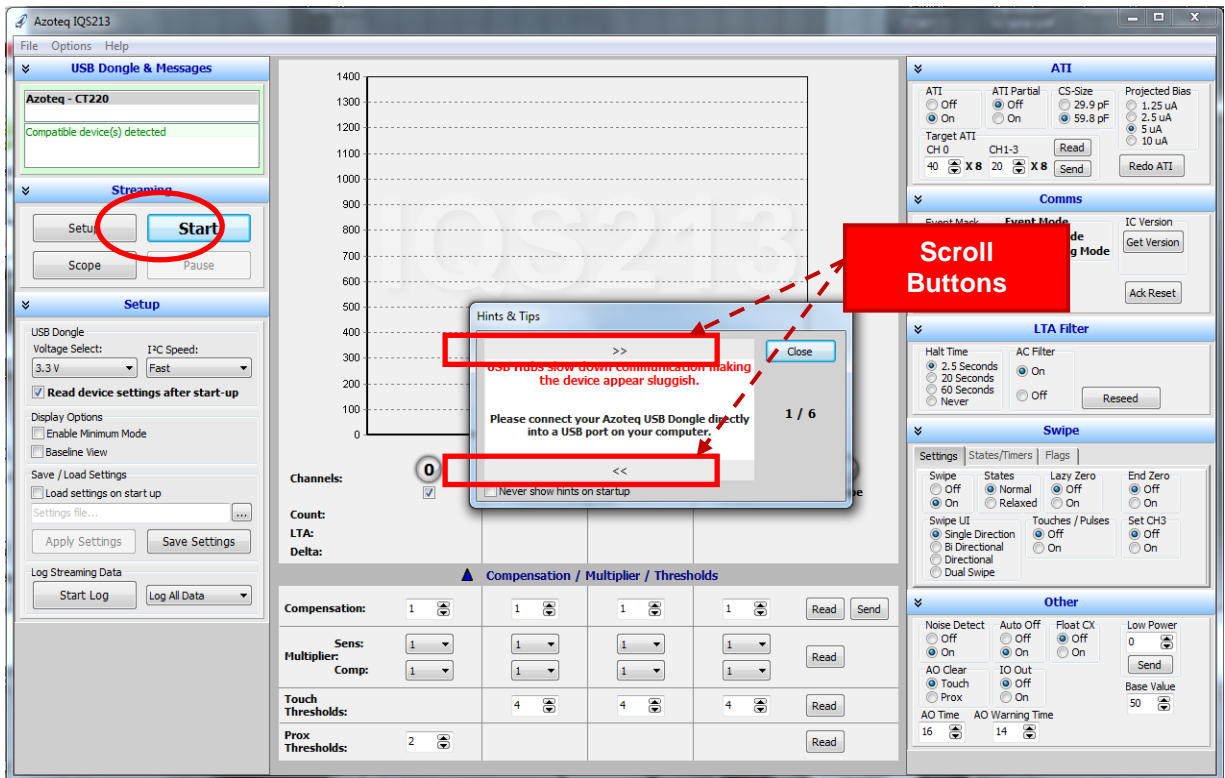

Figure 3.1 IQS213 GUI Startup Screen
- ❏ The **IQS213** GUI display is illustrated in Figure 3.1. The “Hints and Tips” Pop-up window in the centre of the screen contains important information relevant to the GUI software and IC, please take the time to read though all of the information. The scroll buttons can be used to flip through the hints and tips and are marked in Figure 3.1
- ❏ After closing the Hints & Tips window in the centre of the screen, data streaming can be started by clicking on the “Start” button, also indicated in Figure 3.1